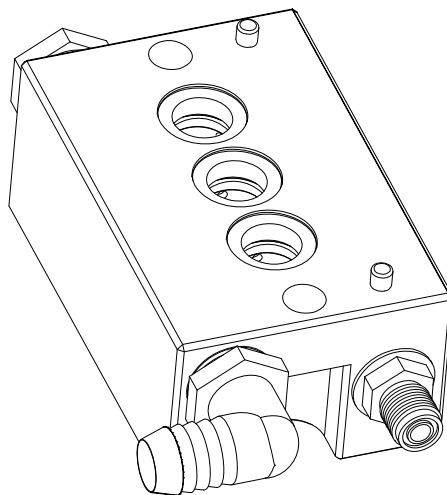

Fig. 9: Orientation for Manifold Seal Servicing
Clean and inspect all valve plugs (47) prior to reassembly. If there is a problem, contact your dealer. Once all valve plugs (47) are clean and dry, install new valve plug o-ring (46) onto valve plug (47). Install the valve spring (45) onto the valve plug (47), it should now be attached to the plug. Press the valve (44) onto the valve spring (45). Complete valve assembly shown in Fig. 9.